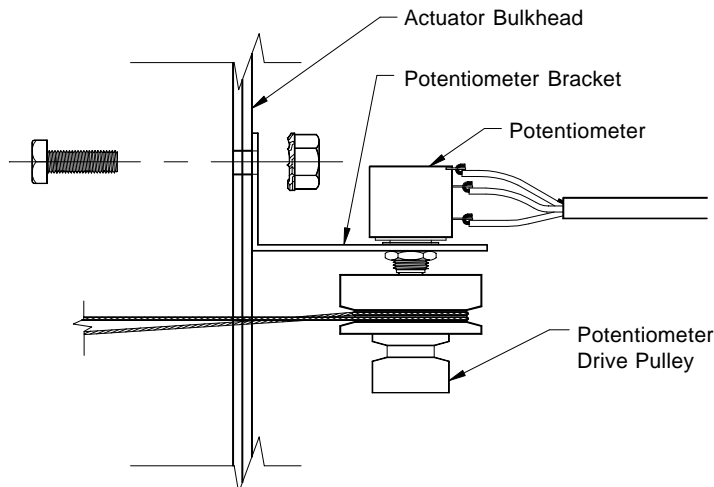

Figure 2
- 4) Remove potentiometer bracket from the actuator and save the mounting bolts and Tek screws. It is **not** necessary to disconnect the terminal end of the potentiometer cable. Remove the potentiometer drive pulley from potentiometer shaft by loosening the set screw. Remove the potentiometer from bracket and save the potentiometer, washer and mounting nut. Discard the potentiometer bracket and potentiometer drive pulley. **See Figure 2.**